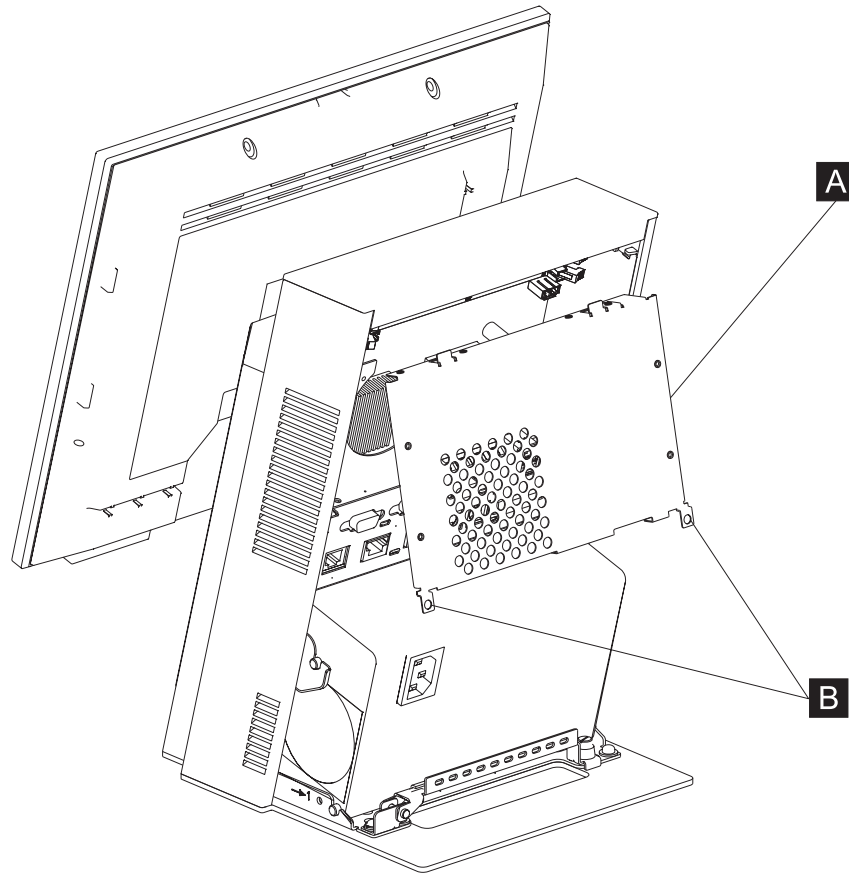

Figure 48. Removing the rear metal panel cover
2. Locate the rear metal panel cover ( **A** in Figure 48).
3. Loosen the two captive screws shown as **B** in Figure 48 and carefully slide the cover from the top hinges to remove.